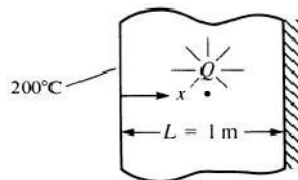

Figure 7
- j) The plane wall shown in Figure 7 is 1 m thick. The left surface of the wall ($x=0$) is maintained at a constant temperature of 200°C , and the right surface ($x=L=1 \text{ m}$) is insulated. The thermal conductivity is $K_{xx}=25 \text{ W/(m}\cdot^\circ\text{C)}$ and there is a uniform generation of heat inside the wall of $Q = 400 \text{ W/m}^3$. Determine (a) the global stiffness matrix and (b) the temperature distribution through the wall thickness by taking 4 elements.